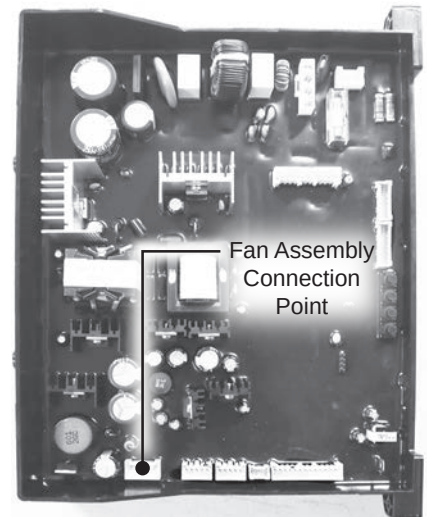
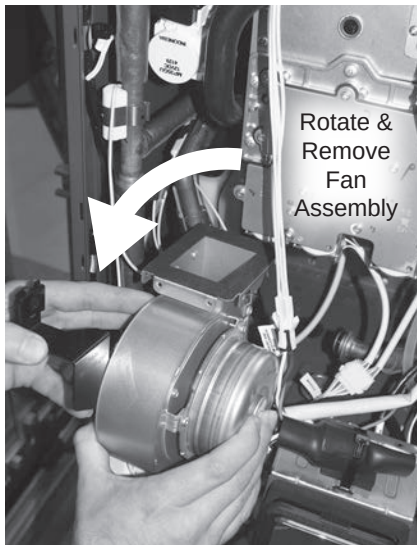

Figure 101 - Disconnecting fan assembly from PCB
Figure 104 - Rotate and remove fan assembly
- 20** Using Figure 101 as reference, disconnect the fan assembly wiring harness from PCB.
NOTICE: For easy removal, guide the fan around the left side of the inlet manifold as shown in Figure 104.
- 29 Rotate new fan assembly 90° counterclockwise so the fan outlet is facing the water heater. Insert fan assembly into water heater using the same method as outlined in **Step 23** in reverse order. See Figure 104.
- 30 Install fan assembly outlet firmly into burner. Verify all screw hole locations align properly. Secure fan assembly with the five screws previously removed in **Step 22**, starting with the bracket screw (C) to help stabilize the fan assembly.
- 31 Guide fan assembly wiring harness behind gas valve. Using Figure 101 as reference, connect fan assembly wiring harness to PCB.